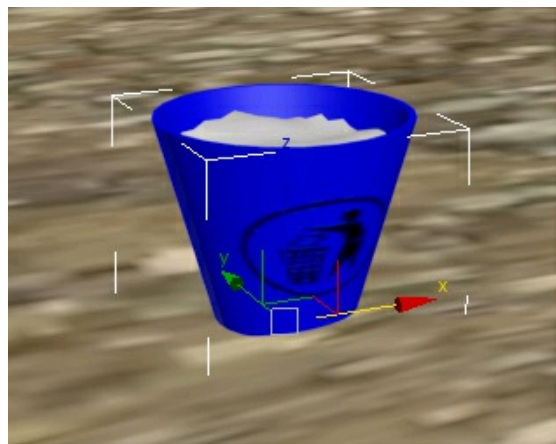

Figure 7-107 *The dustbinmat material displayed*
4. Select *dustbin* from the Scene Explorer. Next, assign the *dustbinmat* material to it, as discussed earlier, refer to Figure 7-107.